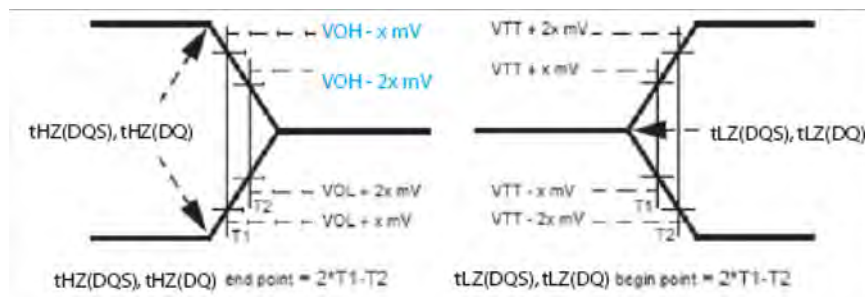

Figure 29 — tLZ and tHZ method for calculating transitions and endpoints
$t_{LZ}(DQS)$, $t_{HZ}(DQS)$ for preamble/postamble (see 4.13.2.3 and Figure 29)
tHZ and tLZ transitions occur in the same access time as valid data transitions. These parameters are referenced to a specific voltage level which specifies when the device output is no longer driving tHZ(DQS) and tHZ(DQ), or begins driving tLZ(DQS), tLZ(DQ). Figure 29 shows a method to calculate the point when device is no longer driving tHZ(DQS) and tHZ(DQ), or begins driving tLZ(DQS), tLZ(DQ) by measuring the signal at two different voltages. The actual voltage measurement points are not critical as long as the calculation is consistent. The parameters tLZ(DQS), tLZ(DQ), tHZ(DQS), and tHZ(DQ) are defined as singled ended.